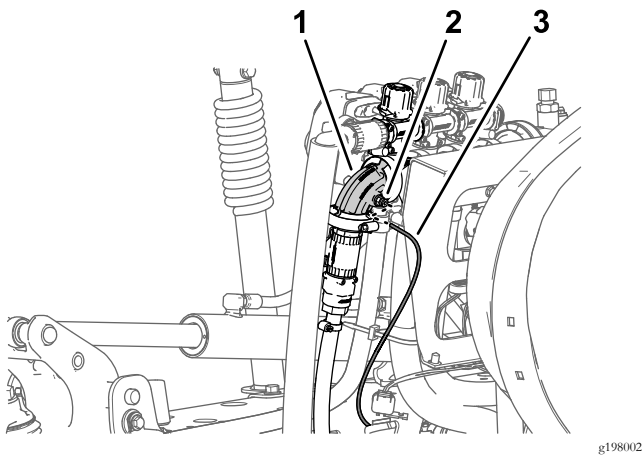

Figure 28
1. Press in the collar for the tube coupler in the 90° elbow of the right spray-section valve (Figure 28).
2. Pull the pressure-sense tube for the dash gauge out of the tube coupler (Figure 28).